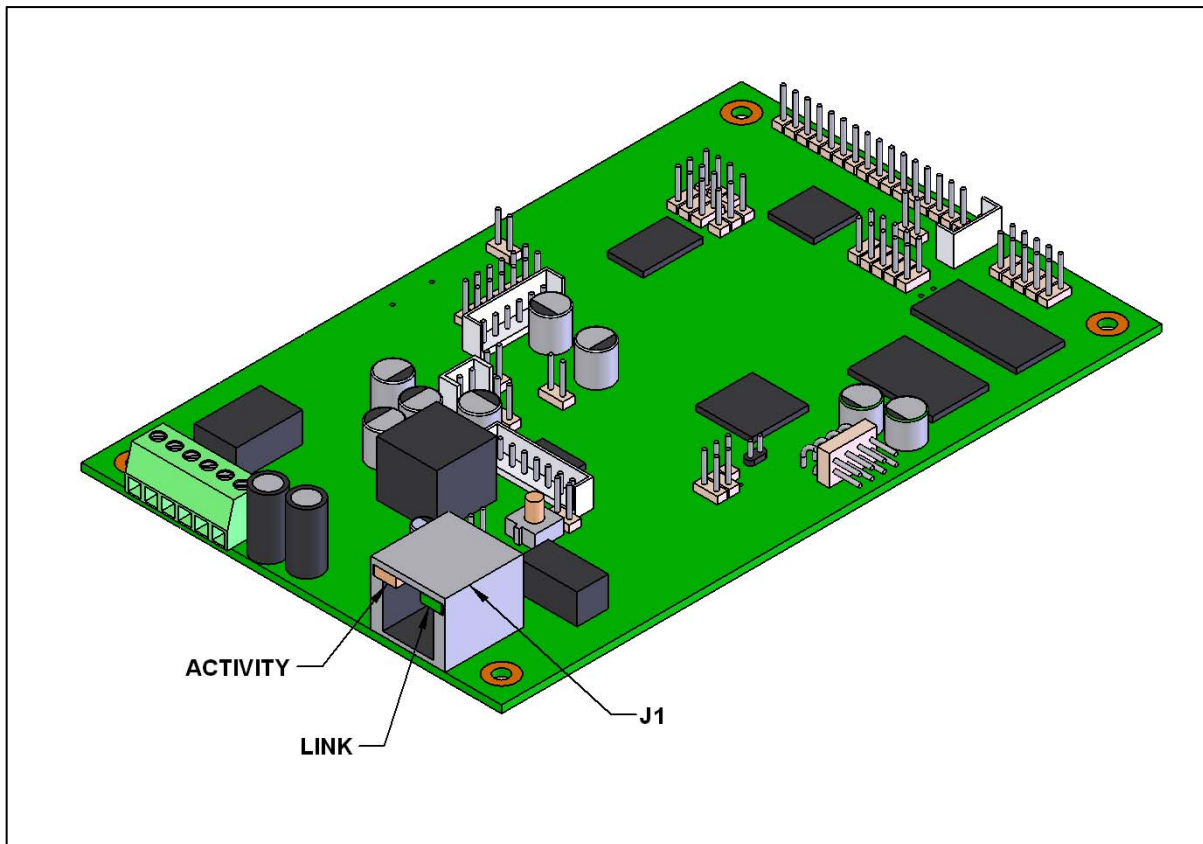

Figure 8 - Network Activity
See: Section 12.6 RESET Switch and Figure 8 - Network Activity
- The square, green **Link** light above the Ethernet port indicates that the network connection has been established (see Figure 8). The Link light changes color to confirm the auto-negotiated baud rate: